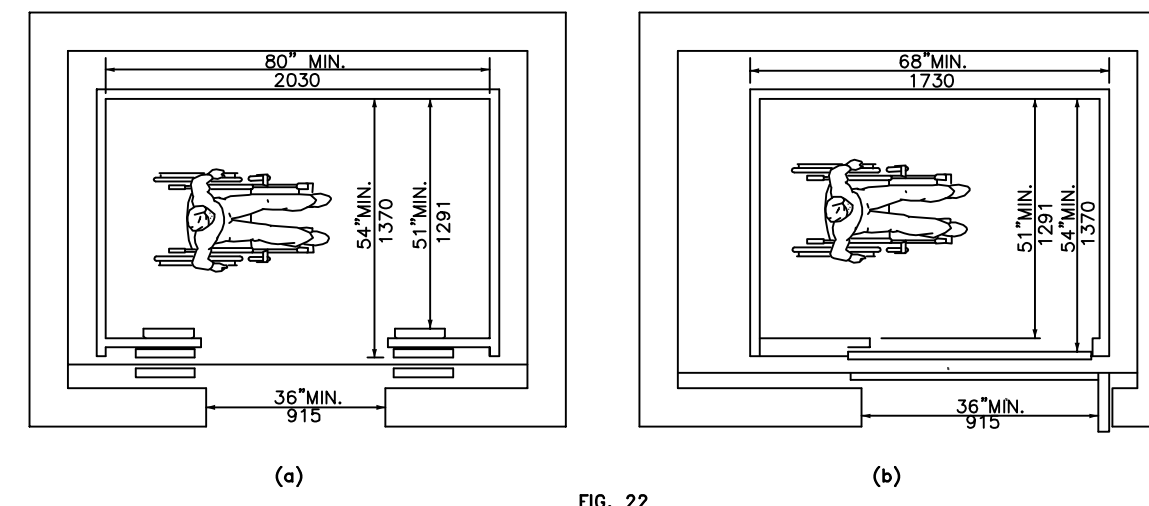

FIG. 22
**4.10.9 FLOOR PLAN OF ELEVATOR CARS.** THE FLOOR AREA OF ELEVATOR CARS SHALL PROVIDE SPACE FOR WHEELCHAIR USERS TO ENTER THE CAR, MANUEVER WITHIN REACH OF CONTROLS, AND EXIT FROM THE CAR. ACCEPTABLE DOOR OPENING AND INSIDE DIMENSIONS SHALL BE AS SHOWN IN FIG. 22. THE CLEARANCE BETWEEN THE CAR PLATFORM SILL AND THE EDGE OF ANY HOISTWAY LANDING SHALL BE NO GREATER THAN 1-1/4" (32mm).